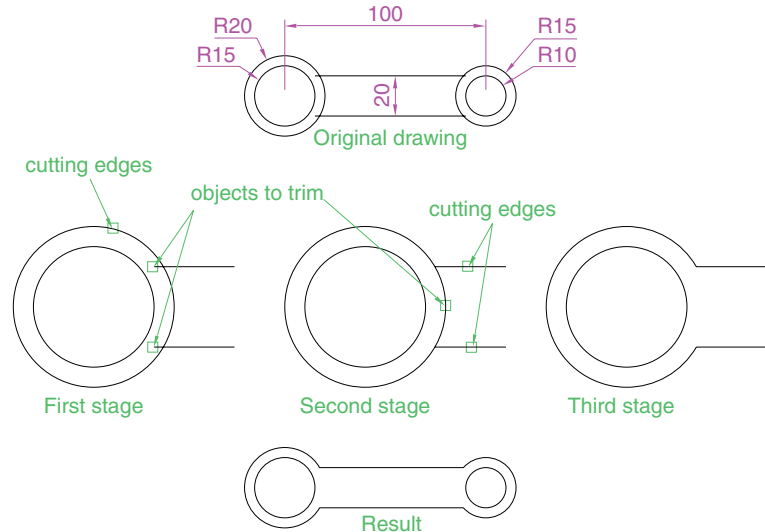

Fig. 5.31 First example – **Trim**
First example – Trim (Fig. 5.31)
1. Construct the drawing **Original drawing** in Fig. 5.31.
3. This completes the **First stage** as shown in Fig. 5.31. Repeat the **Trim** sequence for the **Second stage**.
4. The **Third stage** drawing of Fig. 5.31 shows the result of the trims at the left-hand end of the drawing.
5. Repeat for the right-hand end. The final result is shown in the drawing labelled **Result** in Fig. 5.31.